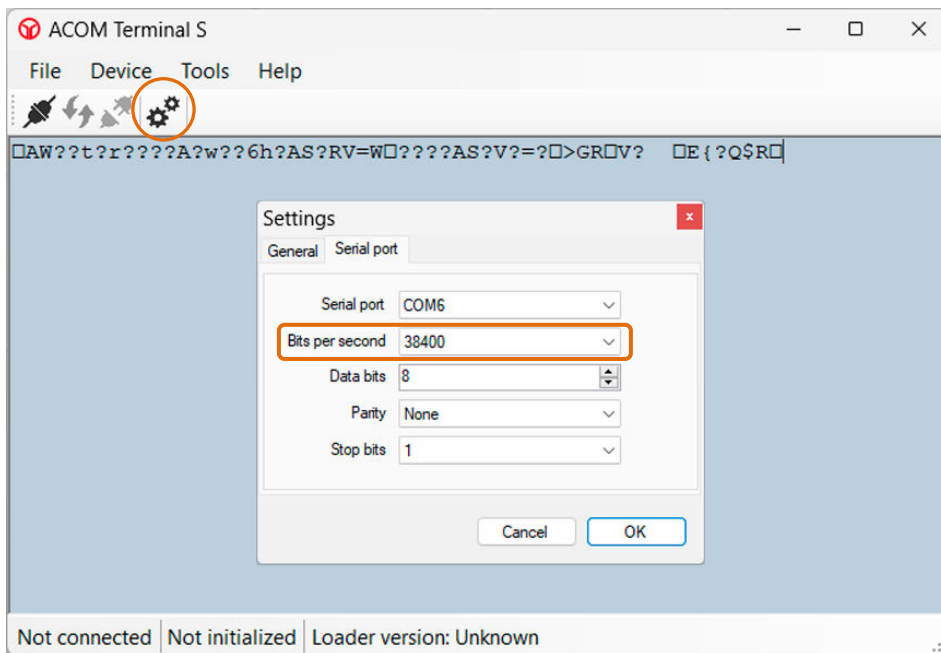

Figure 7-15 | Terminal S - Change Bits per Second
- Open the **Settings** window by clicking on the **Settings** icon (two gears) or use **Tools -> Settings** from the menu bar. In the **Settings** window -> tab **Serial port**, configure the settings as shown in **Figure 7-15 | Terminal S - Change Bits per Second**: